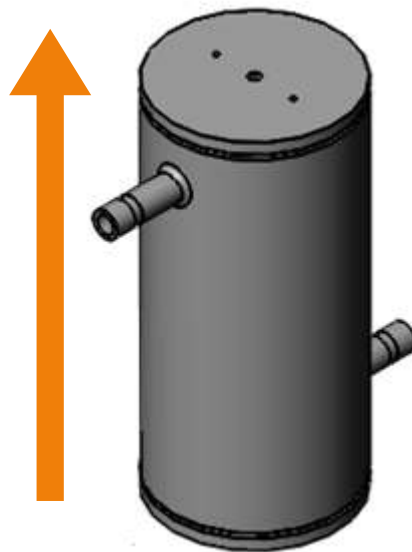

Fig. 3 Schematic diagram
② Power capacity above 55W
③ IESNA(Illuminating Engineering Society of North America) LM80 experimental method, 70% Lumens depreciation evaluation standard
1. It is recommended to fix the module vertically on a support. Connect to the water network through the quick-connect connector provided along with the module. Pay attention to the inlet and outlet port locations as shown in Figure 3.